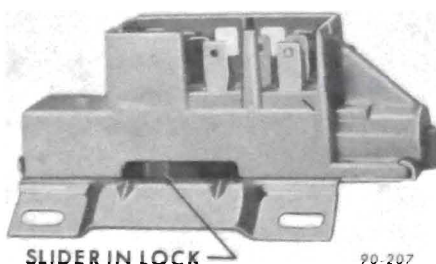

Figure 90-128 - Ignition Switch Slider in "Lock" Position
14. When installing the ignition switch, be sure the lock cylinder is in "Lock" position. Make certain that the switch is in "Lock". Fit actuator rod into switch and assemble to column with two screws. See Figure 90-128.